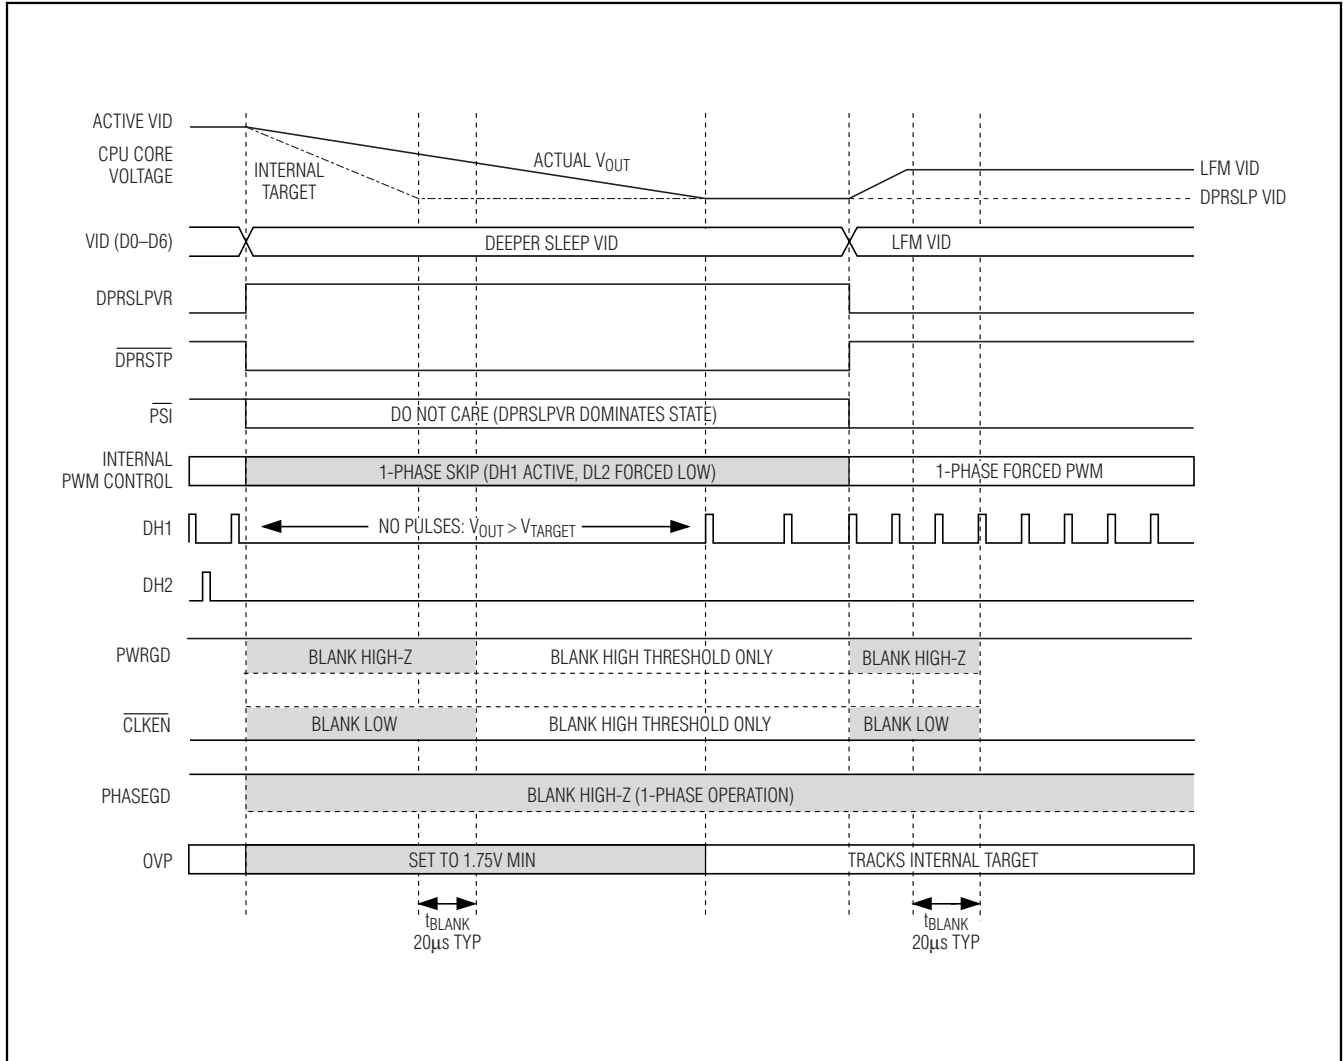

Figure 6. Slow C4 Transition
- Slow C4 Deeper Sleep Exit:** When exiting deeper sleep (DPRSLPVR high, $\overline{\text{DPRSTP}}$ pulled high) while the output voltage is regulating to the deeper sleep voltage, the MAX8770/MAX8771/MAX8772 remain in 1-phase skip mode and ramp the output voltage to the LFM DAC code provided by the processor at 1/4 the slew-rate set by RTIME. The controller blanks PWRGD, PHASEGD, and $\overline{\text{CLKEN}}$ (forced high impedance) until 20 μs after the transition is completed. See Figure 6.